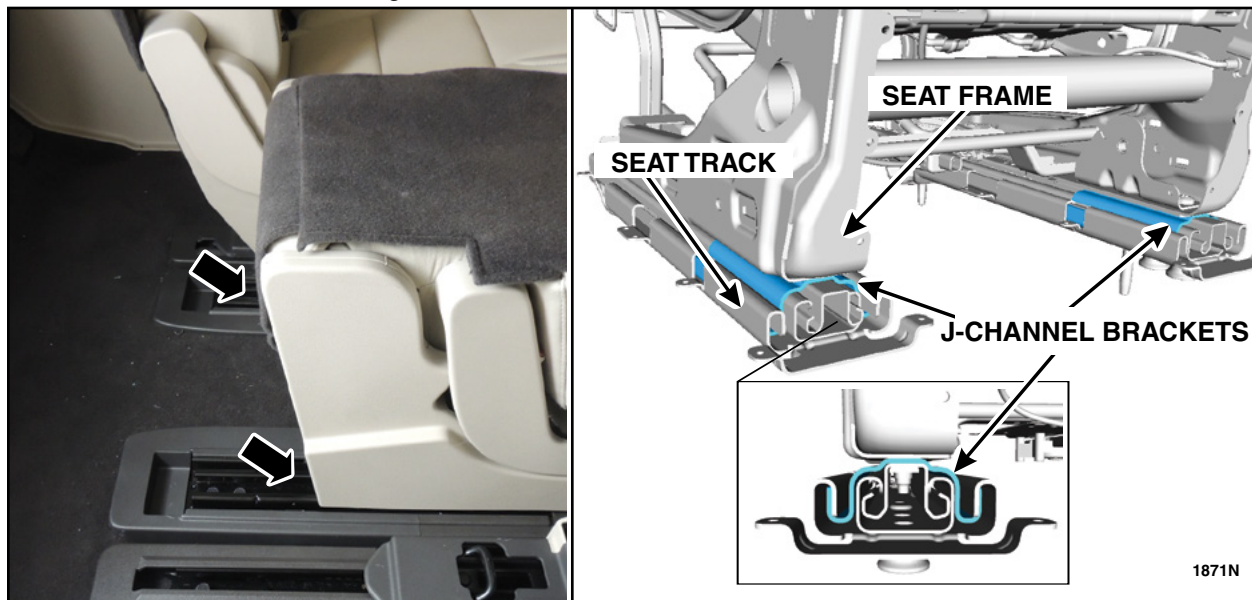

FIGURE 1
2. Inspect the rearward end of both seat tracks for the presence of j-channel brackets. See Figure 1.